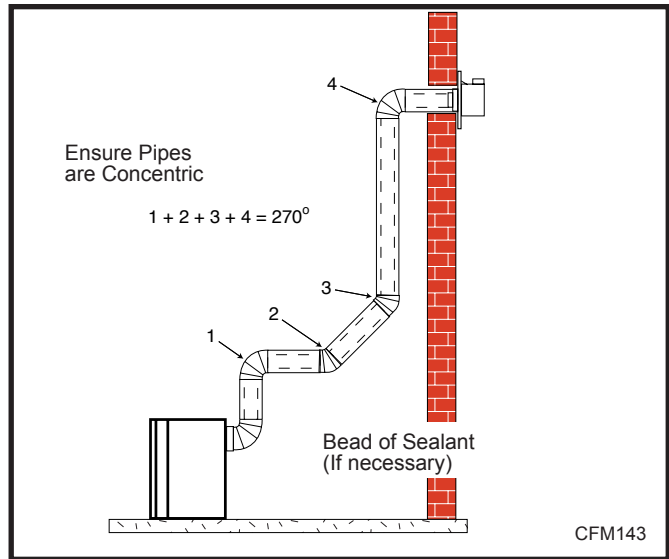

Fig. 24 Apply sealant to inner and outer pipe.
Apply a bead of high temperature sealant to the inner and outer flue collars of the fireplace and using appropriate venting component(s), attach to fireplace with three (3) screws. (Fig. 24) Follow with the installation of the inner and outer elbow. Again secure joints with three (3) sheet metal screws. Wipe off any excess high temperature sealant.